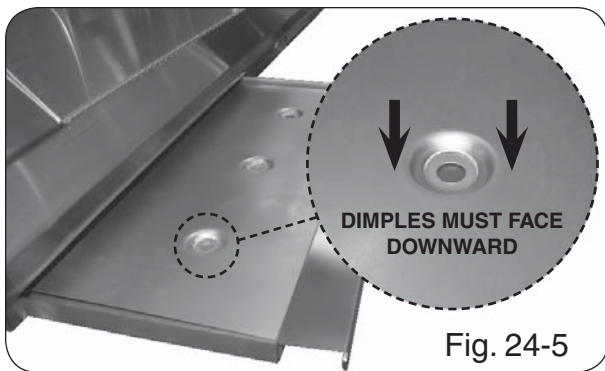

Fig. 24-5
**Note:** The charcoal drip tray has a heatshield to protect from over heating. It may be necessary to remove the heatshield to properly clean out the charcoal drip tray. When reinstalling, the heatshield dimples must face downward as shown in Fig. 24-5.